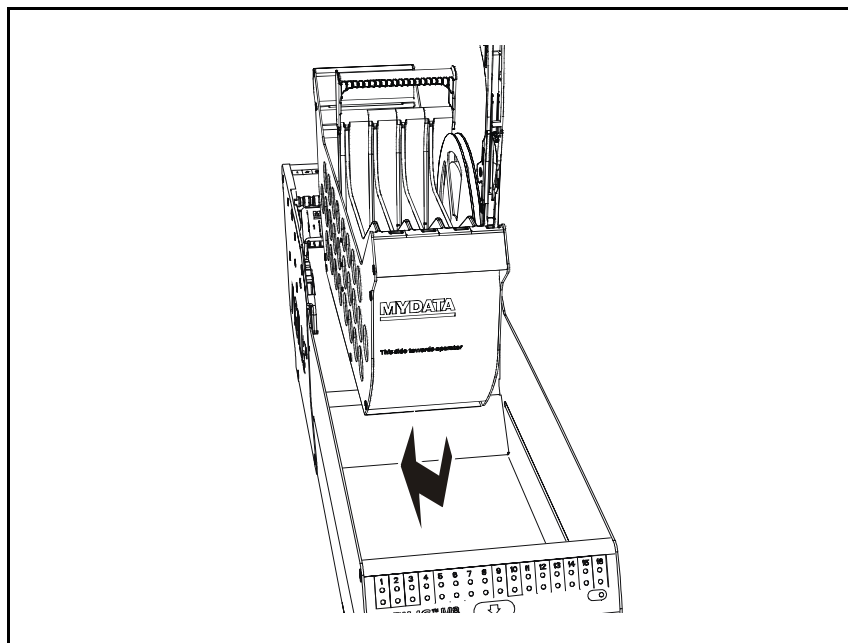

Figure 4-4. Place the bin in the magazine
3. Lift the bin into the magazine. On newer bins there is a text. This side must be directed as shown in Figure 4-4.